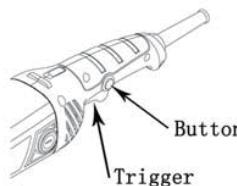

Figure 6
2)Start the tool by pressing the button of on/off switch, then pressing the trigger of on/off switch down slightly.(See figure 6)